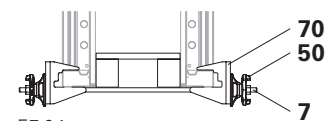

Fig. E7.04a
- Top Tie Holder-2 AH (70) with Tie Rod DW15 (7) and Wingnut Pivot Plate DW15 ga (50). (Fig. E7.04a)